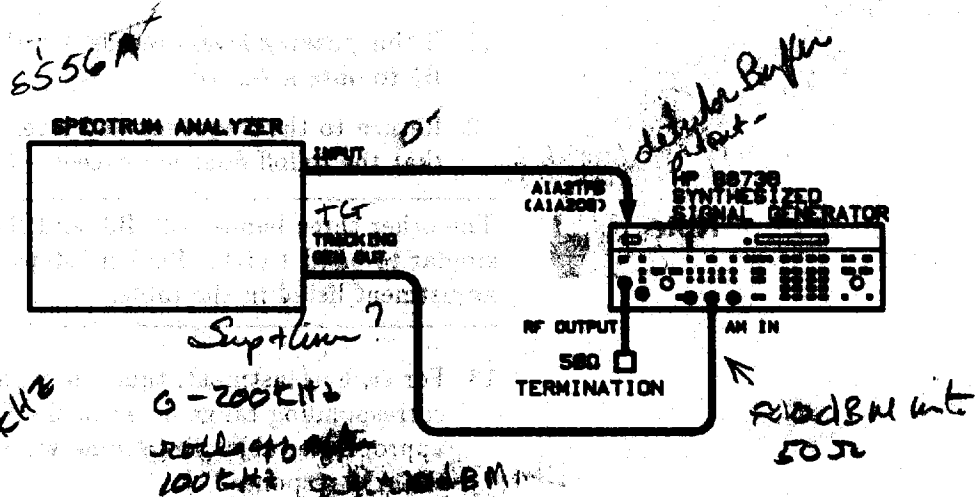

Figure 5-31. AM Bandwidth Adjustment Test Setup
1. Connect the equipment as shown in figure 5-31.